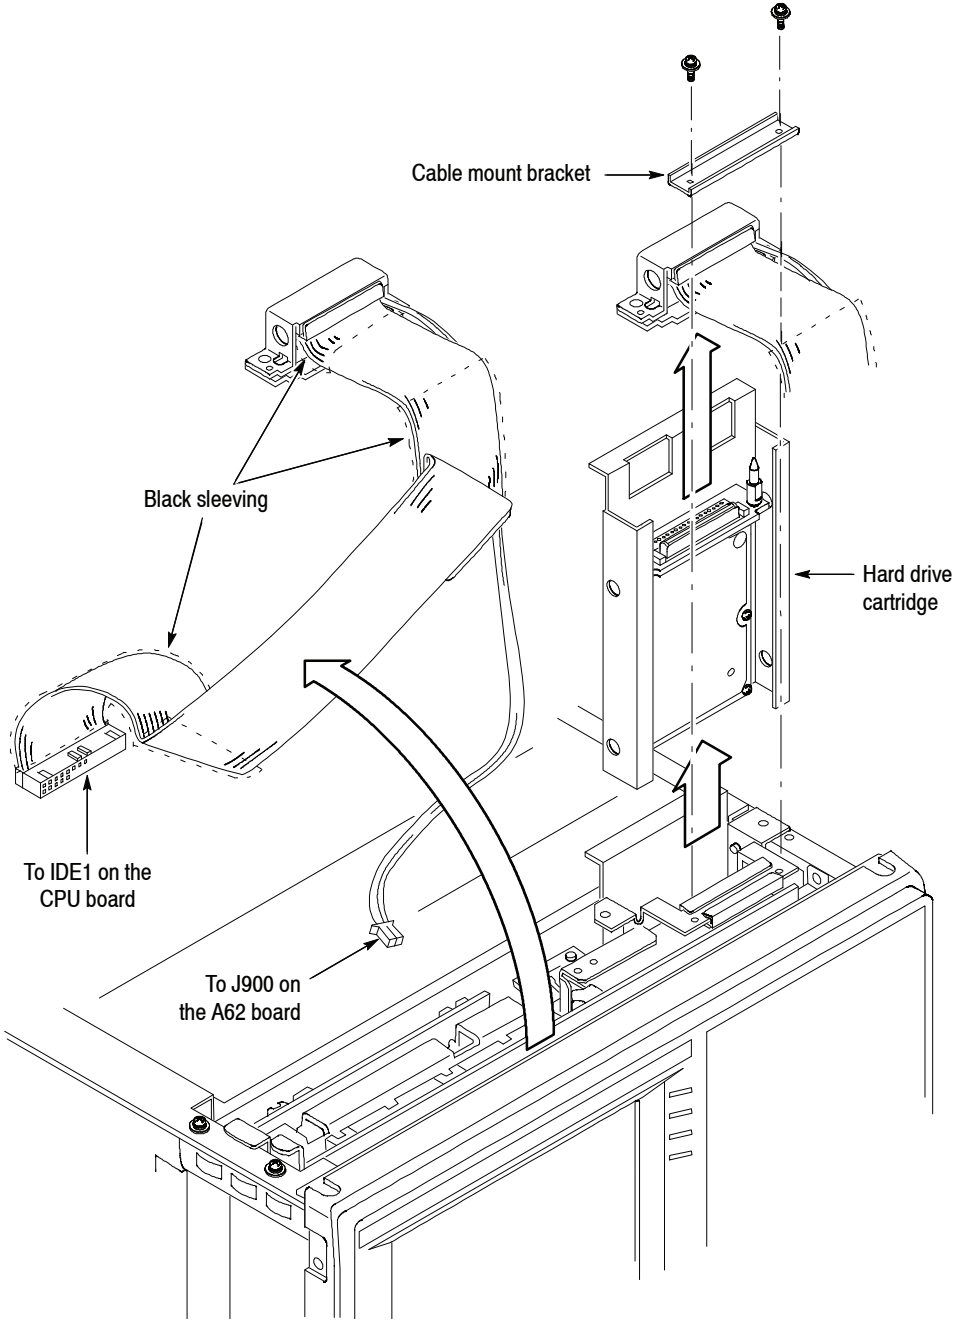

Figure 5-18: Hard drive cartridge removal
4. *Remove the hard disk cable assembly:* See Figure 5-18 on page 5-37.
5. *Remove the hard drive cartridge:* See Figure 5-18 on page 5-37. Pull up the hard drive cartridge from the instrument.